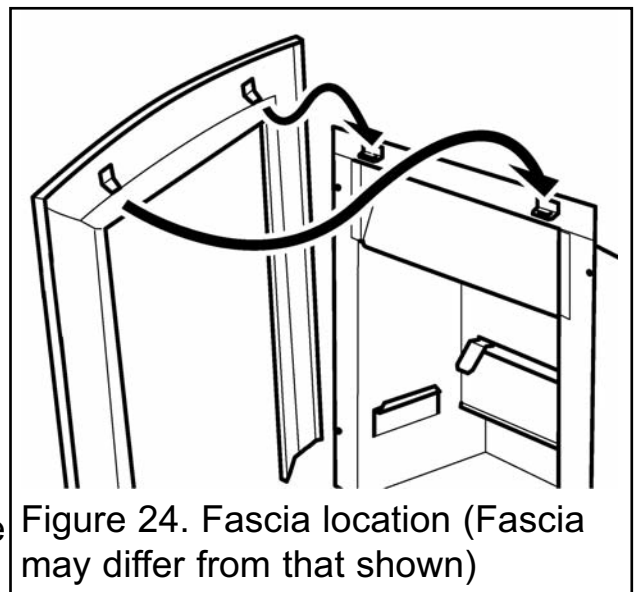

Figure 24. Fascia location (Fascia may differ from that shown)
2. Carefully lift the fascia. Place the fascia against the fireplace front surface so that the two retaining plates at the back of the fascia are directly above the two upper retaining brackets at the top of the hotbox. Lower the fascia unit making sure that the retaining plates locate fully into the brackets on the hotbox (See figure 24). If the inlet pipe runs along the front of the fireplace, the bottom of the fascia will have to be swung forward to clear the pipe while lowering
1. Carefully lift the fascia. Place the fascia against the fireplace front surface so that the two retaining plates at the back of the fascia are directly above the two upper retaining brackets at the top of the hotbox. Lower the fascia unit making sure that the retaining plates locate fully into the brackets on the hotbox (See figure 24). If the inlet pipe runs along the front of the fireplace, the bottom of the fascia will have to be swung forward to clear the pipe while lowering the fascia.